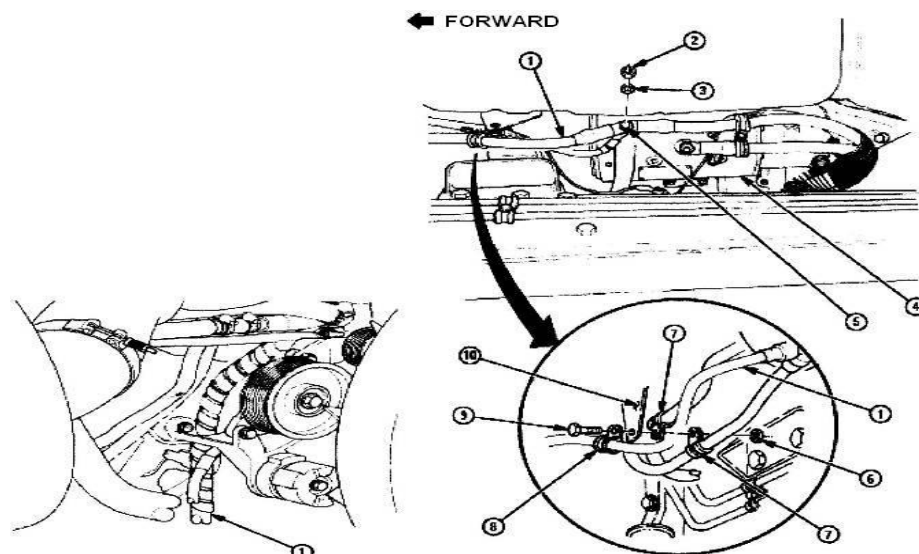

Figure 48
(4) Route 12339317 cable (1) over engine to right side, to positive terminal stud (5) on starter (4) as shown in **Figure 48**.
(5) Remove sealing compound from positive terminal stud (5) on starter (4), along with nut and lock washer (3). Discard lock washer (3) as shown in **Figure 48**.
(6) Secure cable (1) on positive terminal stud (5) of starter (4) with 120384 lock washer (3) and existing nut (2) as shown in **Figure 48**.
(7) Remove two nuts (6) from screw (9) on oil pan bracket (10), discard nuts (6) as shown in **Figure 48**.
(8) Install 12339317 cable (1) on oil pan bracket (10) with MS21333-105 clamp (7), existing screw (9), two clamps (7 and 8), and 271172 nut (6) as shown in **Figure 48**.